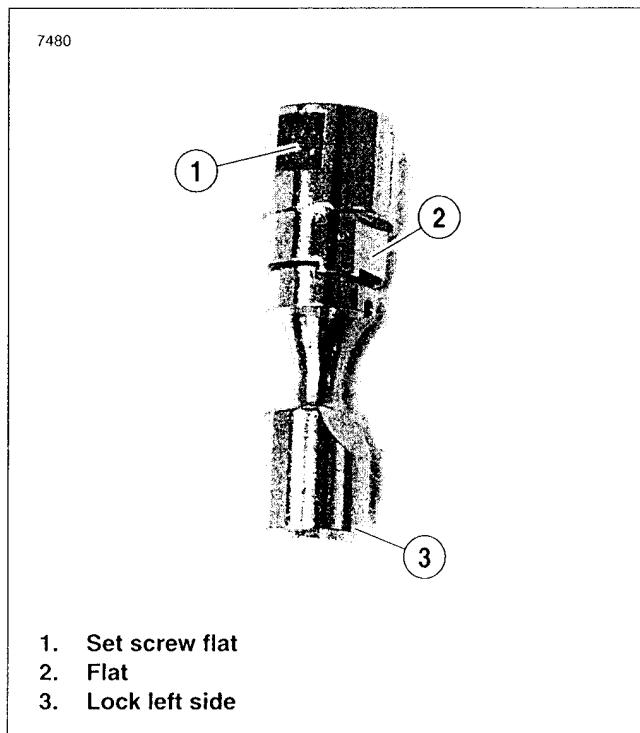

Figure 2-125. Fork Lock
- See Figure 2-125. There is a flat in the bottom of the lock into which the set screw fits. This flat must be at the bottom when the lock is installed.